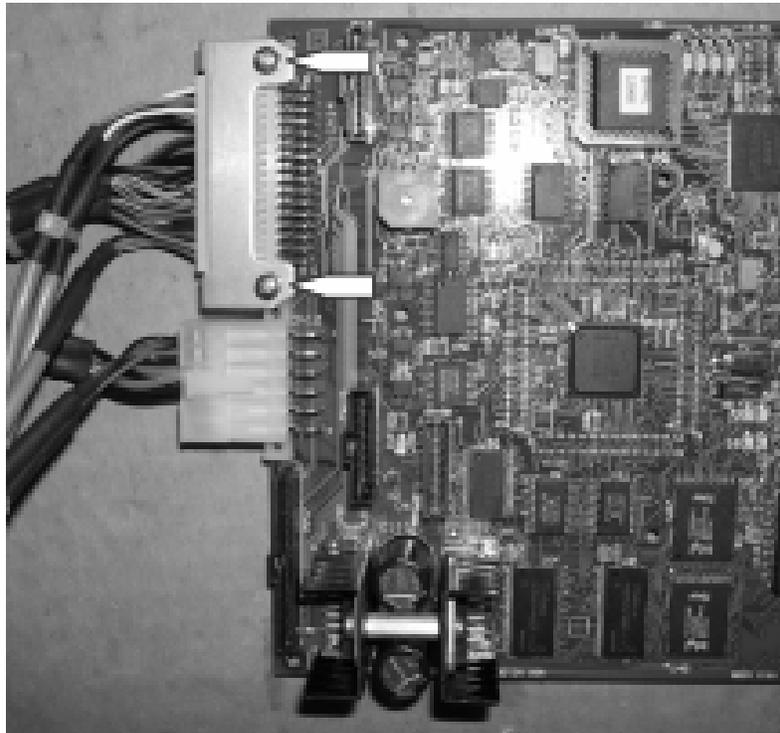

Figure 2: Newer Machines
4. Unplug the 4 connectors on the controller board mainly located along the left side if you are looking directly at it. Out of one of those 4 connectors, on the newer machines it will have a bracket with 2 Phillips head screws holding the connector in place to secure it to the board. If you have the newer machine, use a #1 Phillips head screw driver to remove the 2 Phillips head screws from the bracket so you can unplug the connector. Look at figure 2 for reference.